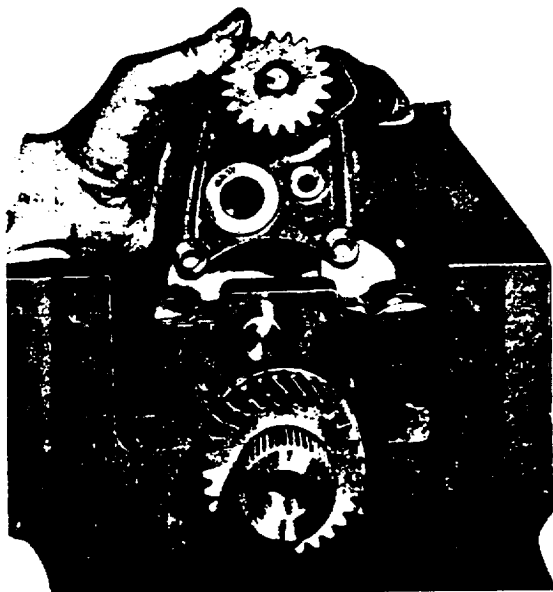

Fig. L.5.
6. Remove the three setscrews securing the pump to No. 1 Main bearing cap and withdraw the pump from the cap (see Fig. L.5).